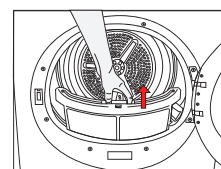

Fig5
- 2.Remove the cover filter by pulling it up and open the filter(Fig5,6)